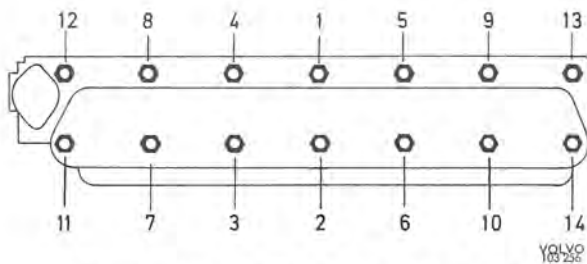

Fig. 2-22. Tightening sequence for cylinder head bolts
The cylinder head is fitted with the help of dowels 2435. The bolts must be tightened in a certain sequence, see Fig. 2-22, to avoid unnecessary stresses.
Mount the manifold onto the cylinder head. Place the cylinder head gasket and cylinder head in position with the lettering "TOP" facing upwards. (Wide edge faces upwards.) Dowel pins 2435 can be suitably used for this purpose. Oil the bolts. Tighten them a 1st and 2nd stage according to the tightening sequence given in Fig. 2-22.
4. Place the cylinder head in position. Fit the bolts and remove the dowels. The cylinder head bolts should be tightened in three stages, 1st stage: 40 Nm (29 lbft), 2nd stage: 80 Nm (58 lbft) and the third stage, 90 Nm (65 lbft) after running the engine warm according to point 17. The bolts should be tightened in the sequence shown in Fig. 2-22.